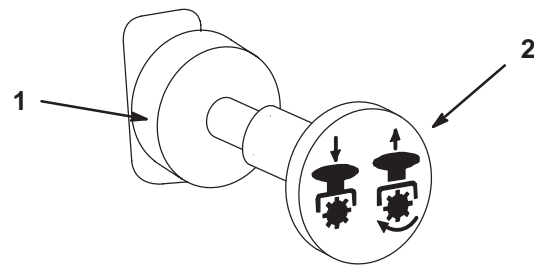

Figure 22
3. Pull out on the power take off (PTO) switch to engage (Fig. 22).
1. To disengage push the PTO switch to the off position (Fig. 22).